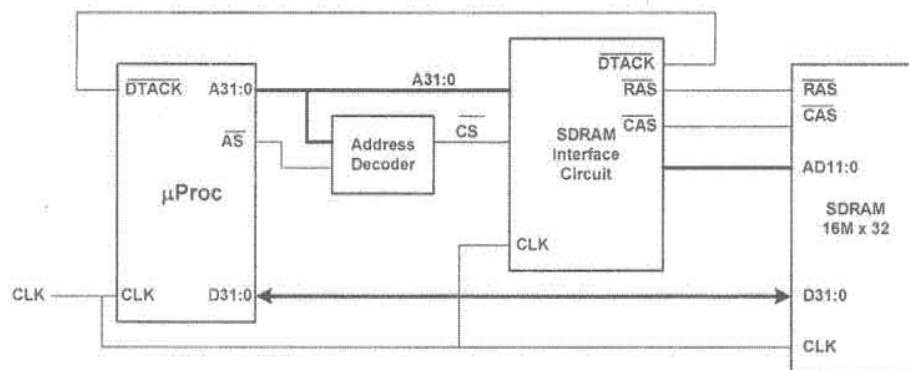
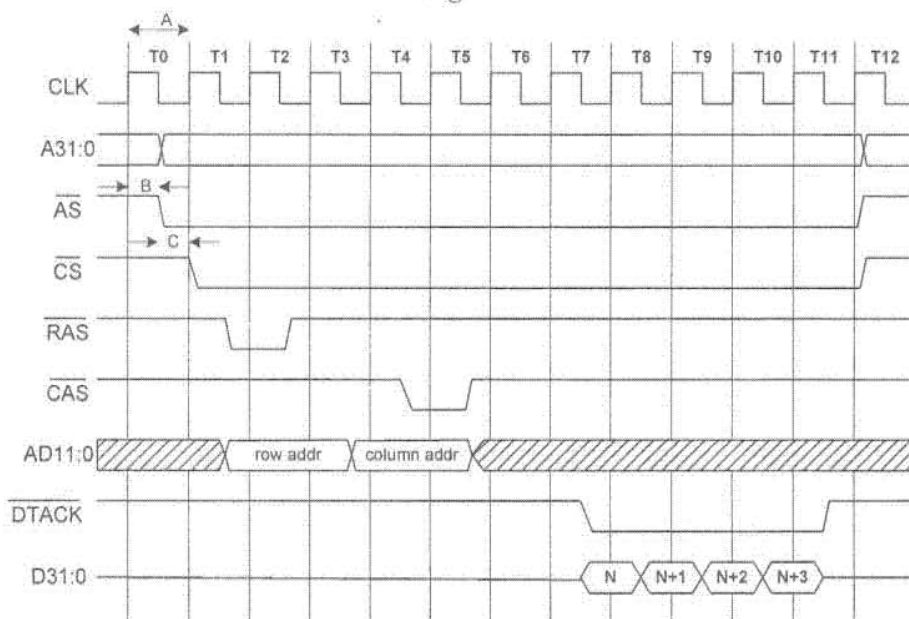

Figure 4.1
Figure 4.2
4. Figure 4.1 shows a microprocessor connected to a 16M x 32 bit SDRAM module through an address decoder and an interface circuit. The timing of the microprocessor and the SDRAM for reading a burst of four memory words is shown in Figure 4.2. The address bus $A_{31:0}$ becomes valid and the address strobe signal \overline{AS} is asserted at time B after the rising edge of the clock signal CLK during the clock cycle T_0 . The period of the clock is A. At time C after \overline{AS} is asserted, the address decoder circuit produces a chip select signal \overline{CS} , which is asserted low for addresses in the range $\$00000000$ to $\$00FFFFFF$ provided that \overline{AS} is also low. The row address strobe signal \overline{RAS} and the column address strobe signal \overline{CAS} are asserted by the SDRAM interface circuit for one clock cycle on the falling edge of the clock during T_1 and T_4 respectively. The data from the SDRAM becomes valid just before the third clock cycle after \overline{CAS} is asserted.
Design the address decoder and the SDRAM interface circuit to generate \overline{CS} , \overline{RAS} , \overline{CAS} , \overline{DTACK} and the memory address bus signals $AD_{11:0}$ where the output timing is as specified in Figure 4.2. State the relationship between the time periods A, B and C, and any other constraints or assumptions under which your design is valid.